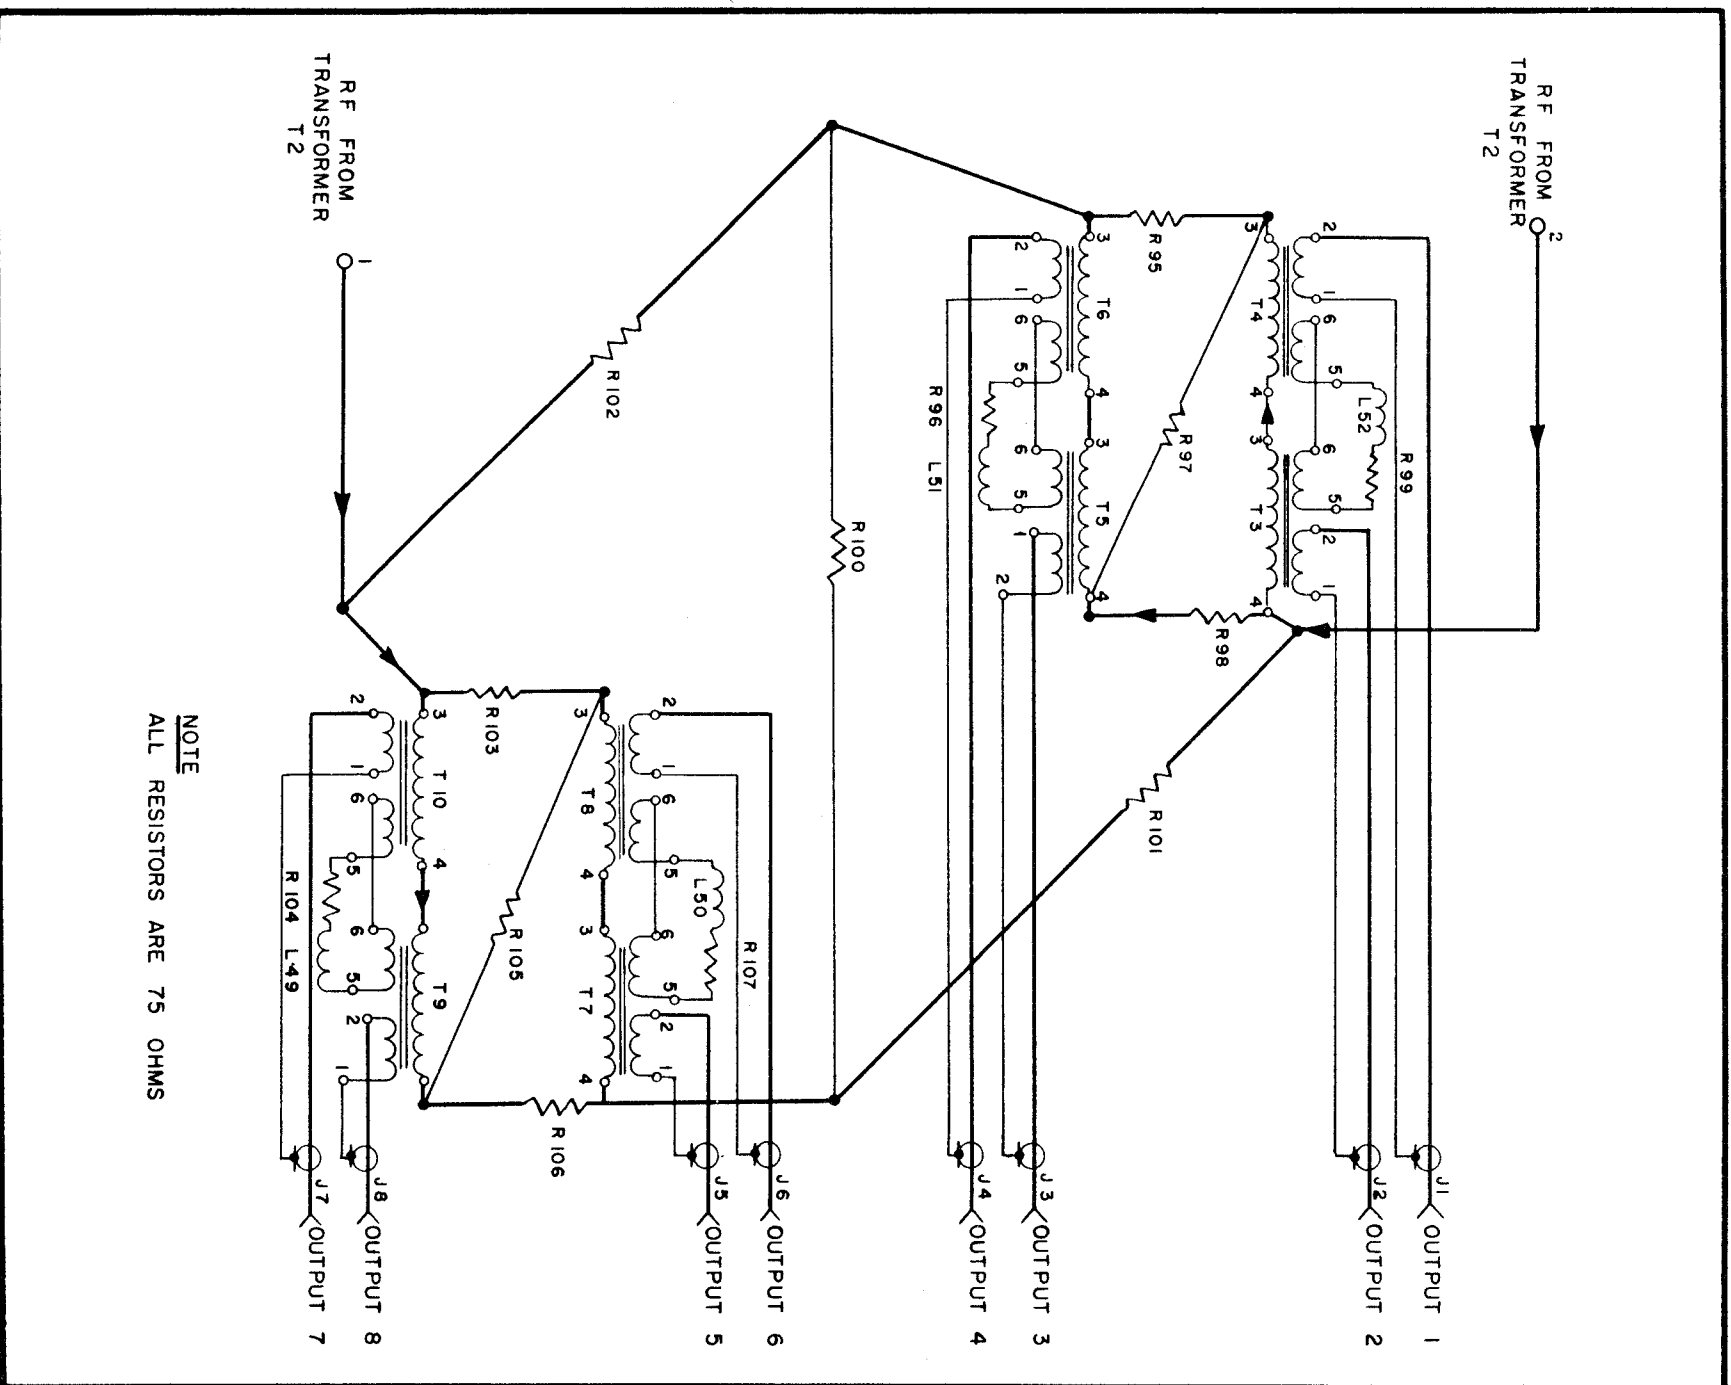

Figure 4-3. Antenna Coupler CU-872A/U, Hybrid Output, Simplified Schematic Diagram.
*a.* The outputs are taken from a transformer hybrid resistive terminated network. For clarity, the circuit components of the hybrid output are rearranged into a bridged-bridge network as shown in figure 4-3.